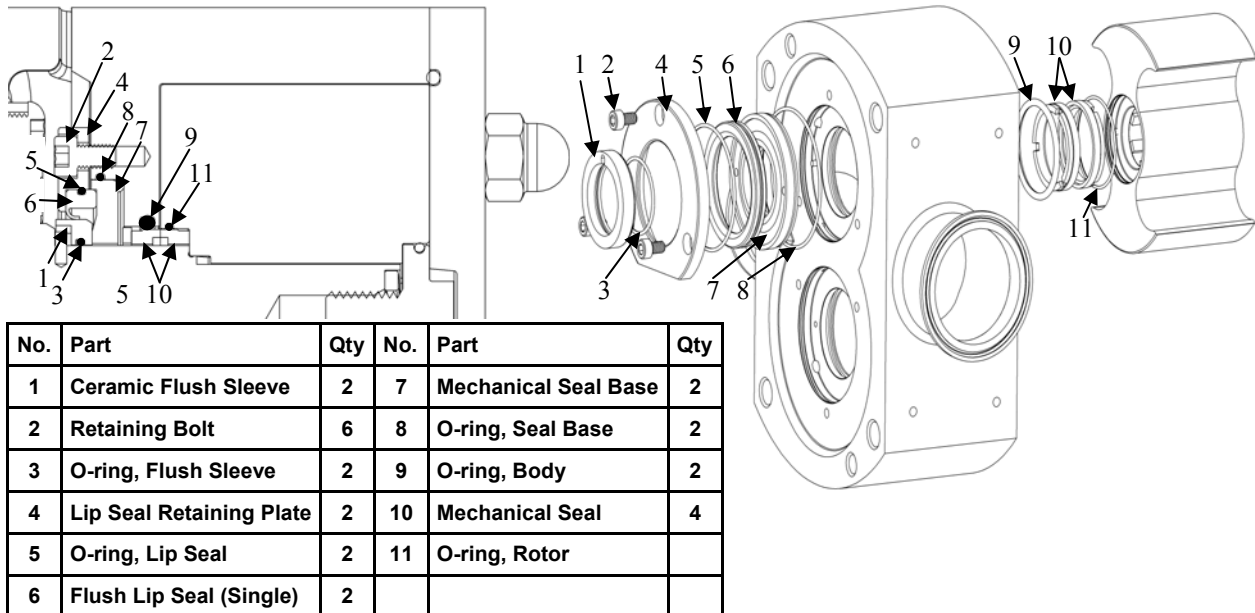

Figure 40: Mechanical Seal with Flush (Lip Seal)
Disassembly: The mechanical seal with flush option is shown in Figure 40. Remove the mechanical seals and o-rings from the rotor and body. Remove the retaining bolts using the appropriate driver and slide the retaining plate, lip seal, and mechanical seal base out of the body. Check the lip seal for damage around the lip and replace if damaged. Slide the ceramic flush sleeve from the shaft and inspect for damage. Do not re-use sleeves that are damaged (sleeve surface grooved or scratched). Remove the o-rings from all components (Figure 40, items 3, 5, 8, 9, 11). If damaged, replace o-rings.